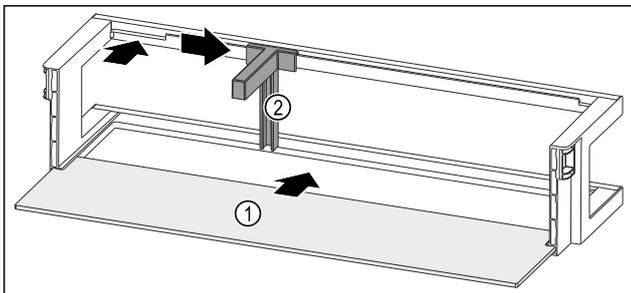

Fig. 99 Door rack with shelf
- ▶ Push the shelf Fig. 99 (1) into the side recesses.
- ▶ Insert the bottle holder Fig. 99 (2) in the recess.
- ▶ Push the bottle holder Fig. 99 (2) to the desired position to the side.